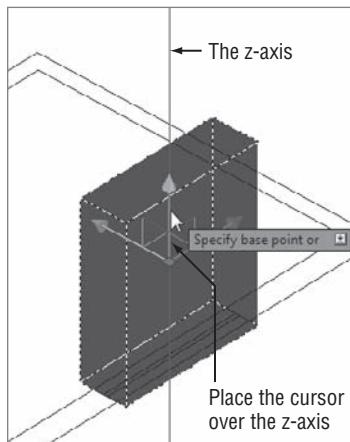

FIGURE 16.22 The z-axis vector indicating that moves are restricted to the z-axis
3. Move the cursor over each of the colored axes of the Move grip tool and notice that the axis turns yellow to indicate that it is current and a vector appears in line with the axis, as shown in Figure 16.22. When a vector is visible, all movements, either indicated with the cursor and a mouse click or input from the keyboard, are constrained to the axis indicated.